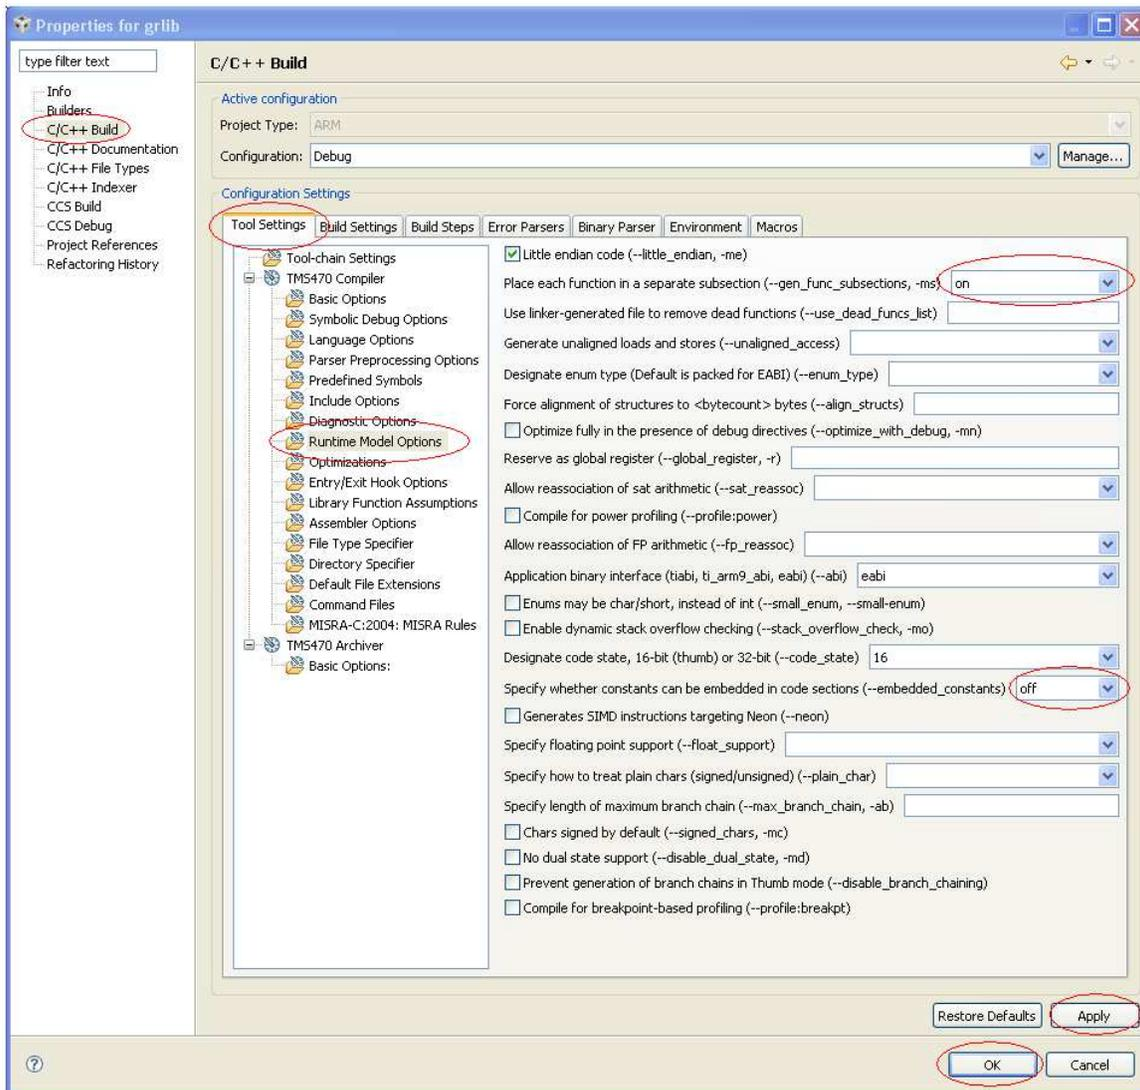

Figure 34. Properties for glibc (Debug)
8. Next, as shown in Figure 34 → select Predefined Symbols and add additional defines to the Pre-define NAME section by clicking on the  button. Add Pre-define NAMES as shown in the red circle in Figure 34. Pay attention to the letter cases and include the following two symbols: